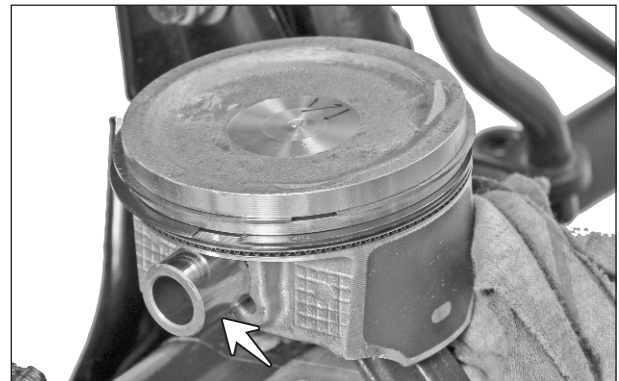

Fig. 3.83
- Gently push and take out the piston pin from the piston and then take out the piston along with the rings. (Fig. 3.83)